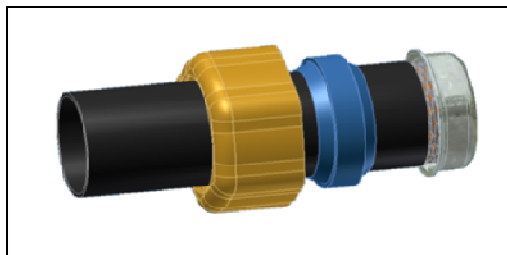

Fig. 3
5. Lock the ferrule along with the inner corrugation of conduit to the bottoms. (See fig. 3.)